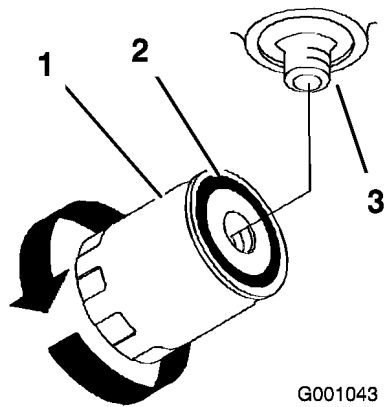

Figure 53
4. Apply a thin coat to the rubber gasket on the replacement filter (Figure 53).
6. Fill the hydraulic tank with hydraulic fluid until the fluid overflows the filter and then turn the oil filter clockwise until the rubber gasket contacts the filter adapter, then tighten the filter an additional 1/2 turn (Figure 53).